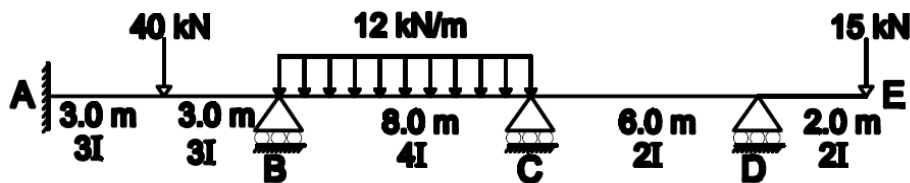

Figure 4
- 4 Analyse the beam using displacement method [Figure.4]. Hence find support reaction at 'A'. Also draw B.M.D.